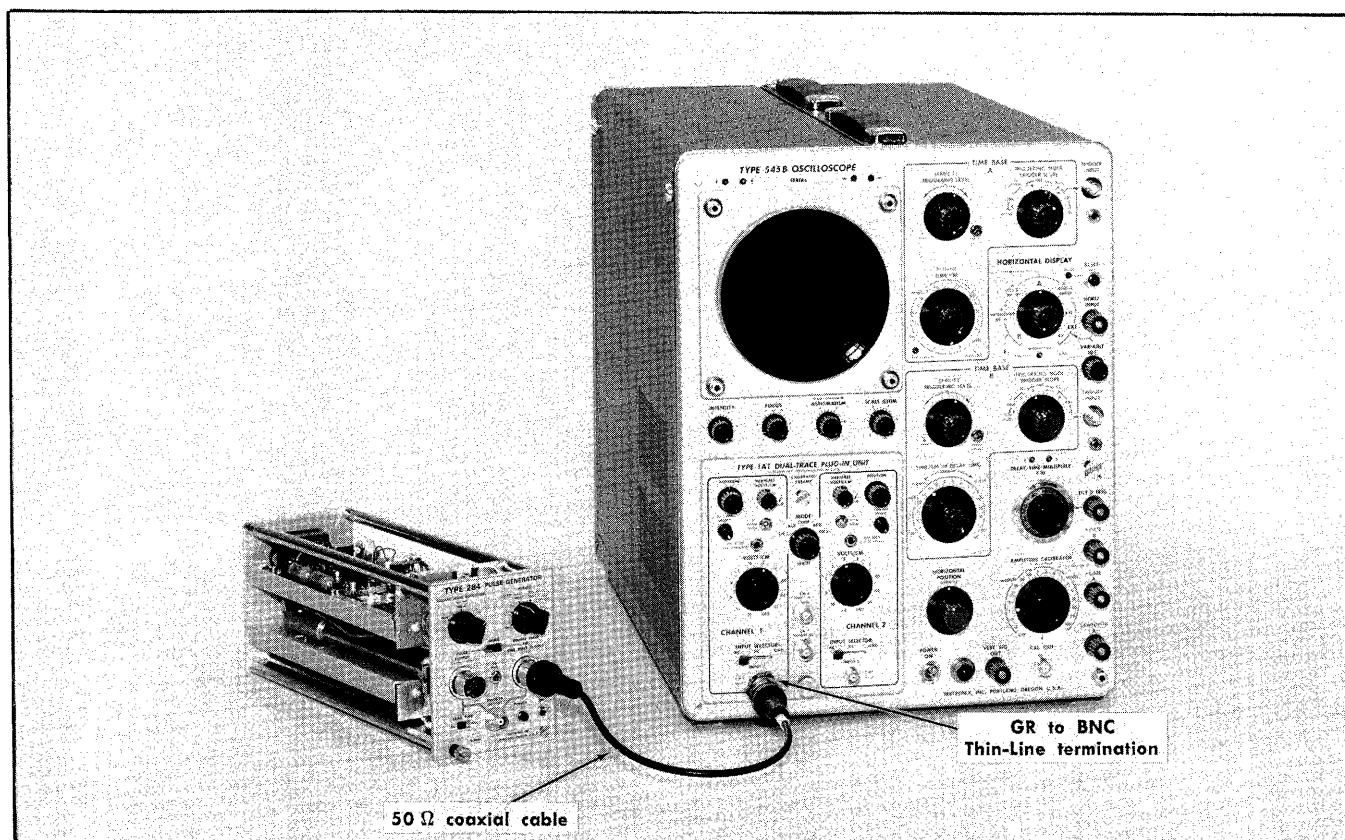

Fig. 6-9. Equipment setup for steps 5 and 6.
a. Use the equipment setup shown in Fig. 6-9. Obtain a stable display of the 100 ns period 10 MHz square wave signal on the test oscilloscope.